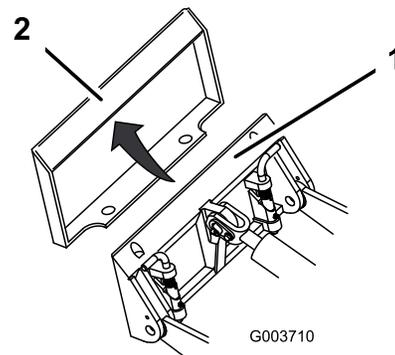

Figure 9
4. Position the mount plate into the upper lip of the attachment receiver plate (Figure 9).